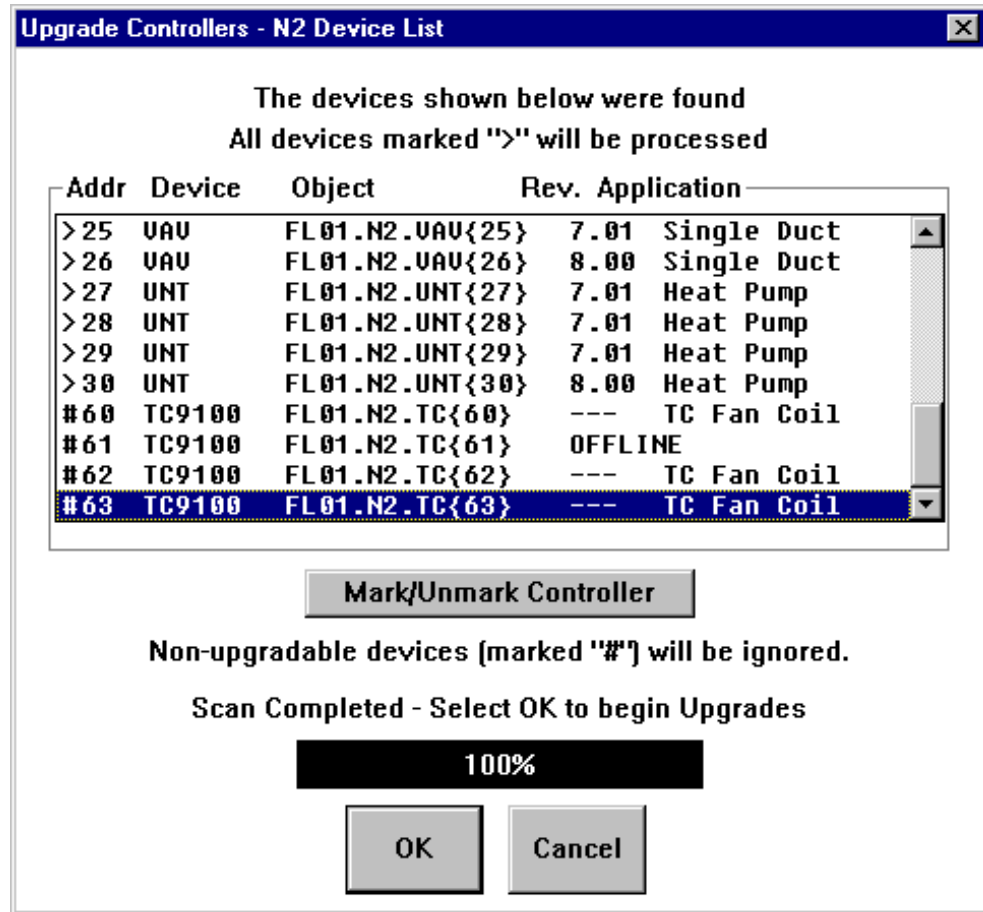

Figure 17-9: N2 Device List Dialog Box
7. Click OK. The Upgrade Controllers - N2 Device List dialog box appears (Figure 17-9).